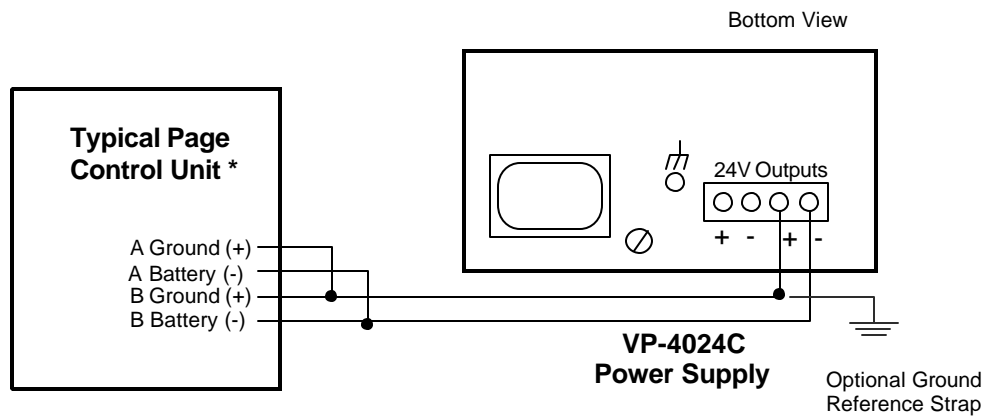

FIGURE 1 - CONNECTIONS TO VALCOM PAGE CONTROL UNITS
- Connections to Valcom page control units are shown in Figure 1.